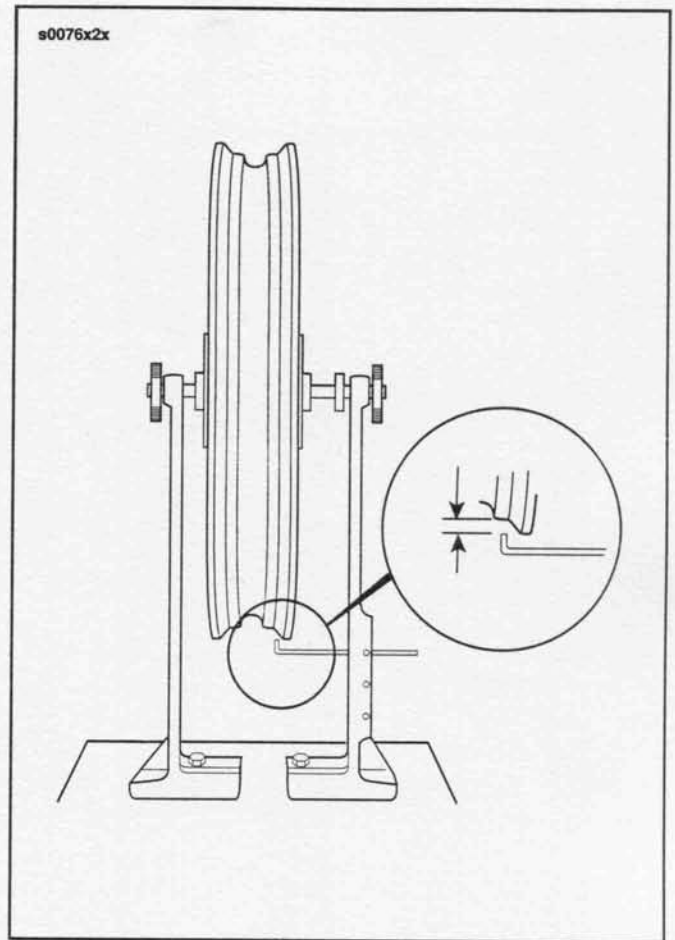

Figure 2-31. Truing Rim Radially
2. See Figure 2-31. Install truing arbor in wheel hub and place wheel in WHEEL TRUING STAND, Part No. HD-95500-80. Tighten arbor nuts so hub will turn on its bearings.